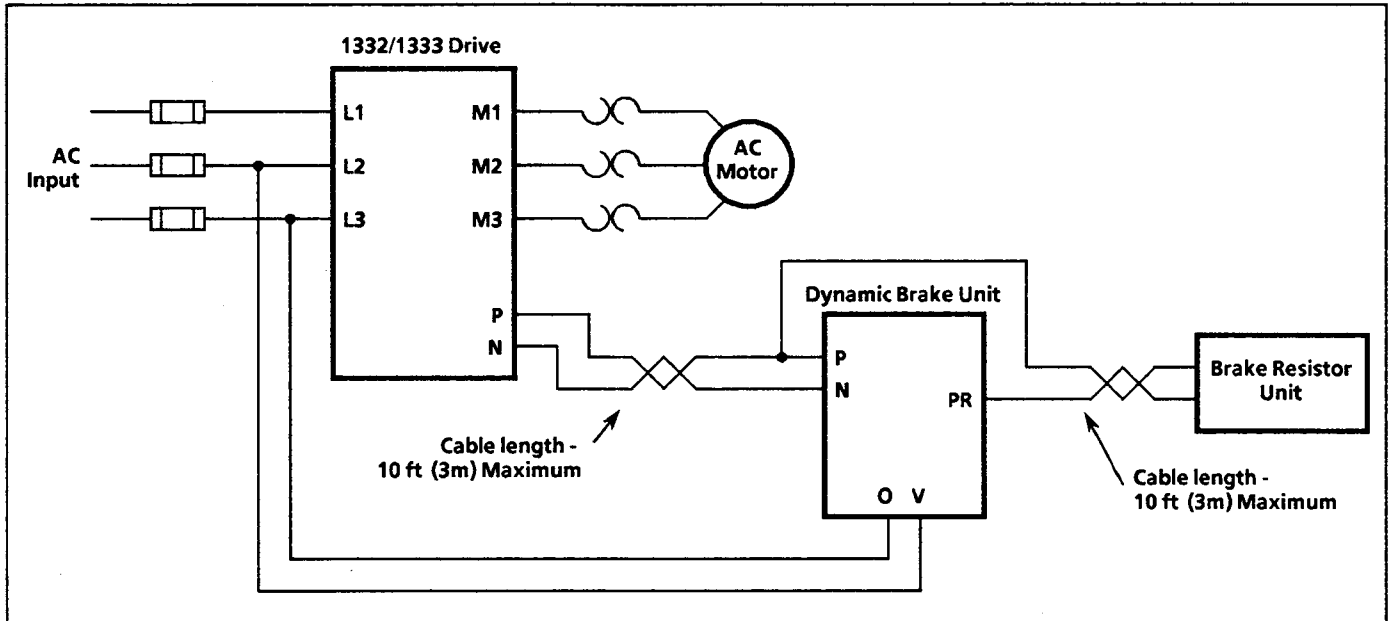

Figure 4 – Interconnection Diagram
Connect the black wire to terminal "PR" of the Dynamic Brake Unit. Refer to Figure 4.
Connect the black wire to terminal "N" of the Dynamic Brake Unit. Refer to Figure 4.
Connect the other assembly wire to terminal “O” of the Dynamic Brake Unit. Refer to Figure 4.
- 11. Connect the remaining ends of the cable assembly to terminals “L2” and “L3” of the Drive power terminal block. See Figure 4.